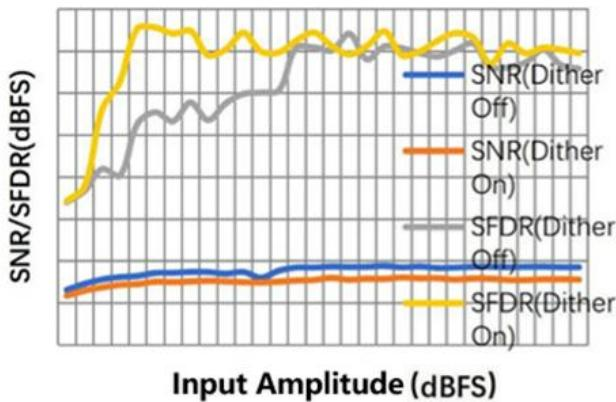
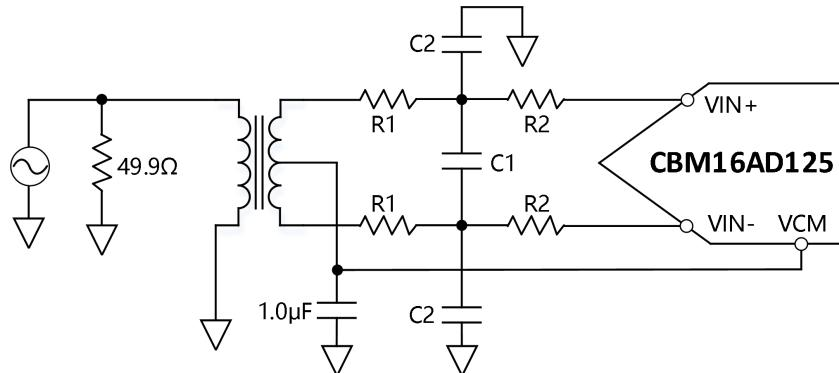

Figure 13 SNR/SFDR vs. Input Amplitude(fin=30.1MHz)
Figure 14. Differential Transformer-Coupled input Configuration
The ADC analog inputs are not internally dc biased. In coupled applications, the user must provide this bias externally. An on-chip, common-mode voltage reference is available from either the VCM pin or autonomous setting if VCM = 0.5×AVDD (or 0.9 V) are met. When the common-mode voltage of the analog input is set by the VCM pin voltage (typically 0.5 × AVDD). The VCM pin must be decoupled to ground by a 0.1μF capacitor (Figure 13, Figure 14)
1. The input configuration uses differential transformer coupling. An example is shown in Figure 13. To bias the analog input, the VCM voltage can be connected to the center tap of the secondary winding of the transformer.
2. The input configuration uses differential double balun coupling (see Figure 14). In this configuration, the input is ac-coupled, and the CML is provided to each input through a  $33\ \Omega$  resistor. These resistors compensate for losses in the input baluns to provide a  $50\ \Omega$  impedance to the driver. Table 8 displays recommended values to set the RC network.